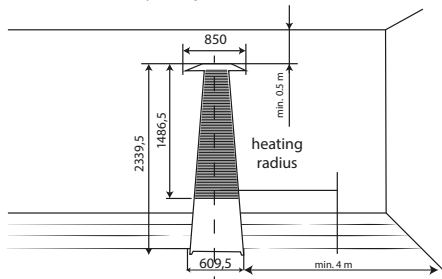

Fig. 1c - Device dimensions and tolerances (0.5 min)
- Do not cover the unit and do not restrict the flow of air. Before turning on the infrared gas heater, remove foreign objects around it. All flammable substances must be removed from the room. Minimum distances in front of an infrared gas heater: - in fig. 1c